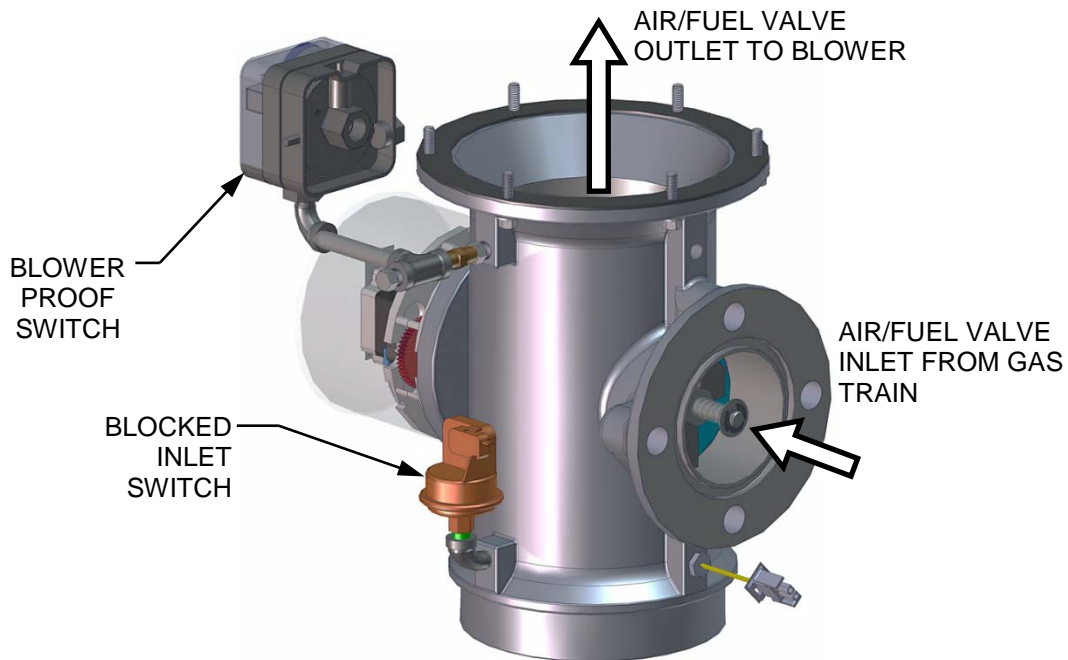

Figure 3-5: Blower Proof Switch
4. Next, the blower proof switch on the Air/Fuel Valve (Figure 3-5) closes. The display will show **PURGING** and indicate the elapsed time of the purge cycle in seconds.